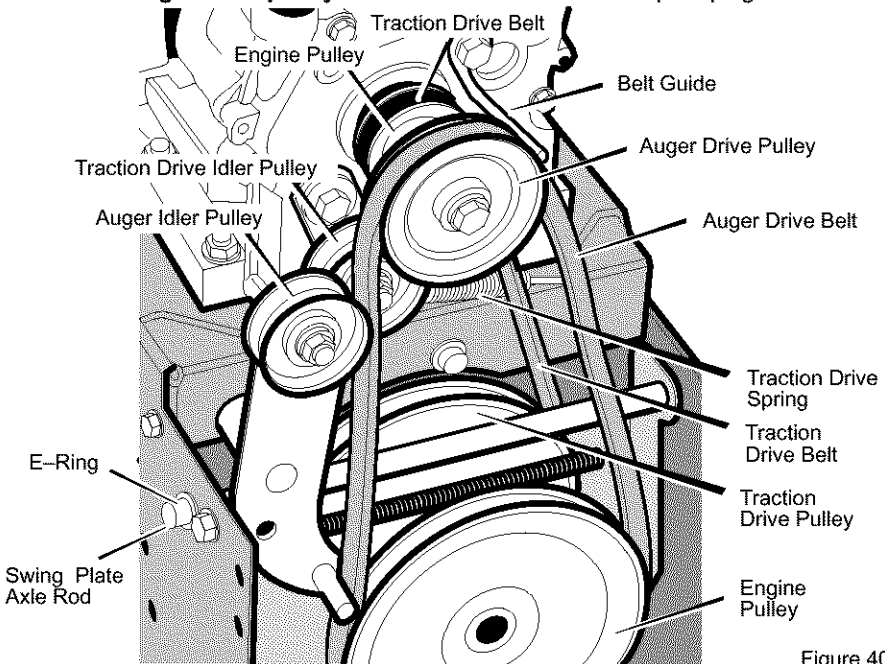

Figure 40
3. Loosen nut on auger idler pulley and move auger idler pulley towards belt about 1/8 inch (3 mm) (see Figure 40).
5. Loosen the **belt guide**. Pull the **belt guide** away from the **auger drive pulley** (see Figure 40).
3. Remove the **e-ring** from one end of the **swing plate axle rod**. Remove the **swing plate axle rod** to allow the swing plate to pivot forward (see Figure 40).